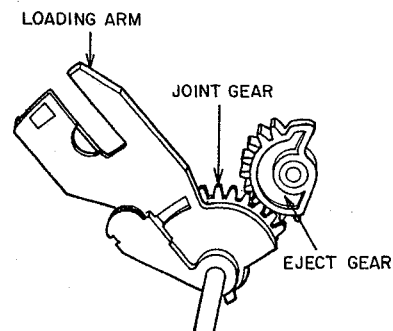

Fig. 3-16
- While covering SENSOR (S) with your fingers, connect the AC power plug to the AC socket. The FRONT LOADING SLIDER will reach the "EJECT" position. Then disconnect the AC power plug from the AC socket before you release your fingers from SENSOR (S).
- Install the LOADING ARM BLK in the reverse order of 3-1-2 (Removal of the LOADING ARM BLK). Position the EJECT GEAR and the JOINT GEAR as shown in Fig. 3-16.